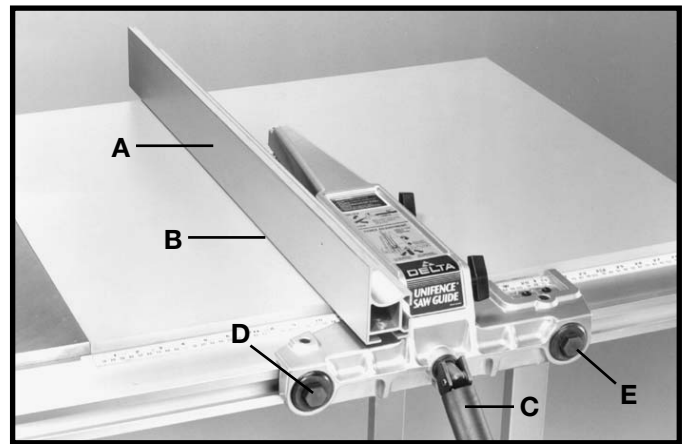

Fig. 101
The fence (A) Fig. 101, should be adjusted so it is parallel to miter gage slots (B). To check and adjust, move the fence (A) until the bottom front edge of the fence is in line with the edge of the miter gage slot as shown, and push down on fence clamping lever (C). Check to see if the fence is parallel to the miter gage slot the entire length of the table. If the rear of the fence must be moved, slightly tighten or loosen one of the adjustment plugs (D) or (E) Fig. 101, using the arbor wrench or a 7/8" wrench, until the fence is parallel with the miter gage slot. **IMPORTANT: DO NOT OVER-TIGHTEN PLUGS (D) AND (E) FIG. 101. VERY LITTLE MOVEMENT OF THESE PLUGS IS NECESSARY WHEN ADJUSTING THE FENCE PARALLEL WITH THE MITER GAGE SLOT.**